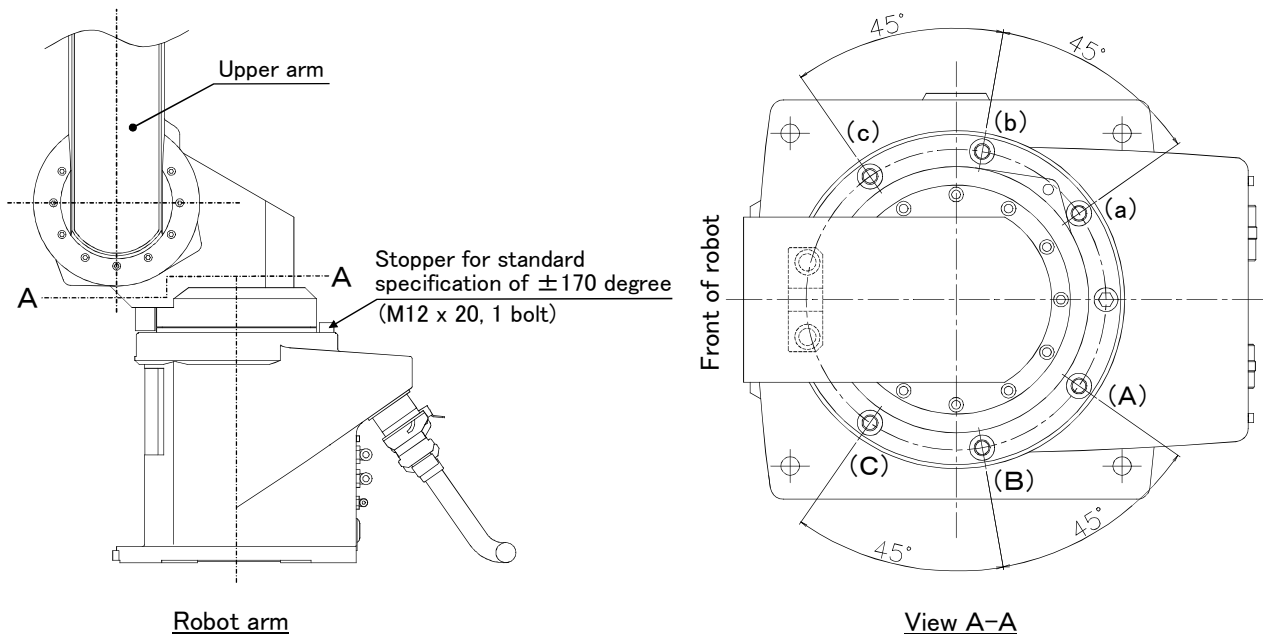

Fig.3-6 : Installation of operating range change option
Note) The insertion position given in the table indicates the insertion position for the operating range change stopper. (Refer to Fig. 3-6.)
- 1) Move the upper arm to the posture as shown in Fig. 3-6 by jog operation.
- 3) By referring to Table 3-2 and Fig. 3-6, insert the two stoppers (M12 x 20) used to change the movement range of J1 axis at the angular position to be changed, and fix securely by applying a clamping torque of 120 N · m to 150 N · m.
**CAUTION** Do not remove the stopper for the standard specification of  $\pm 170$  degree shown in Fig. 3-6.